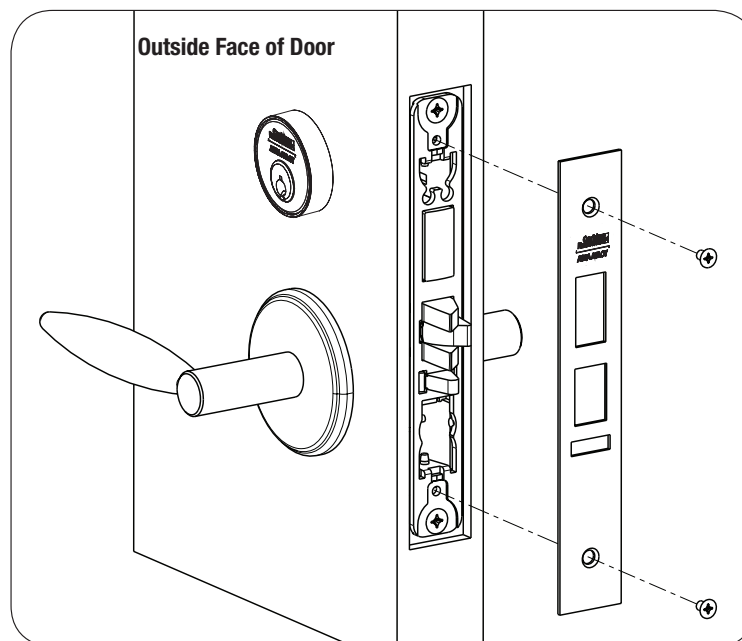

Fig. 13c
- a. Tighten (2) screws through lock body.
- b. Attach armored front with two #8 x 1/4" screws (Fig. 13c).